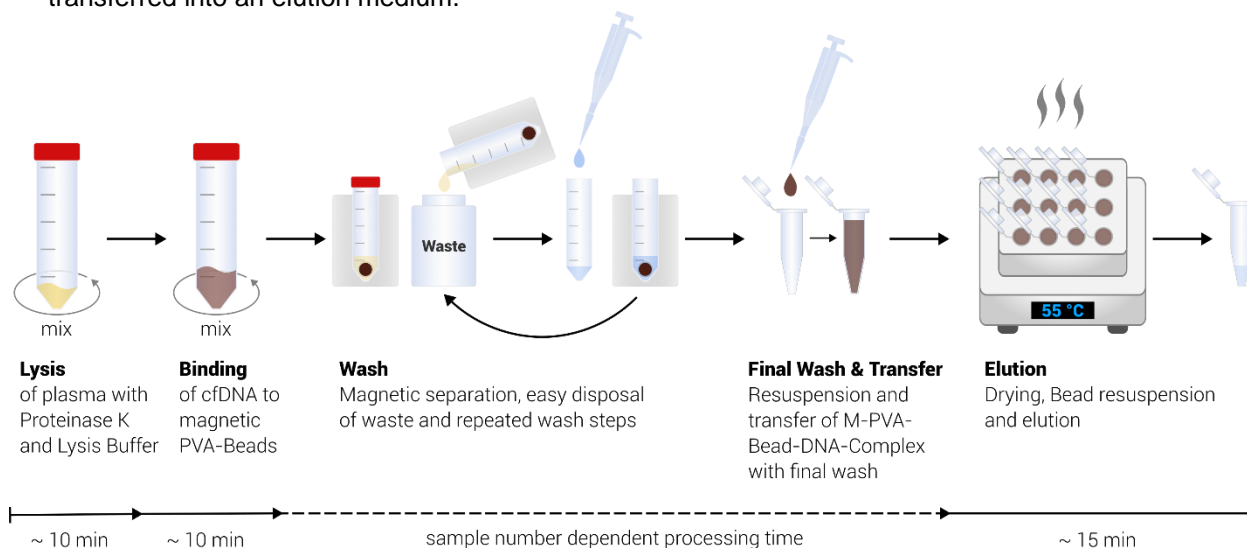

Figure 1. Functional principle of the CMG-134 cfDNA extraction kit.
The chemagic cfDNA 5k Kit is based on chemagic technology using Magnetic Beads for the isolation of cfDNA (Figure 1). The cfDNA binds to paramagnetic beads which are magnetically separated from the sample material. During subsequent steps contaminants are removed and the purified cfDNA is transferred into an elution medium.
4. Following binding incubation, place the tube on the chemagic Magnetic Stand Type F for 5 minutes and, if necessary, until the solution clears, and Magnetic Beads are completely separated. If necessary, remove any foam by pipetting (when no antifoam was used). Afterwards, discard the supernatant by pouring the tube now fixed within the chemagic Magnetic Stand Type F (Figure 1).